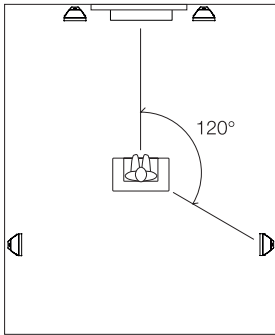

Figure 5
6.1 systems with one rear speaker (figure 5)